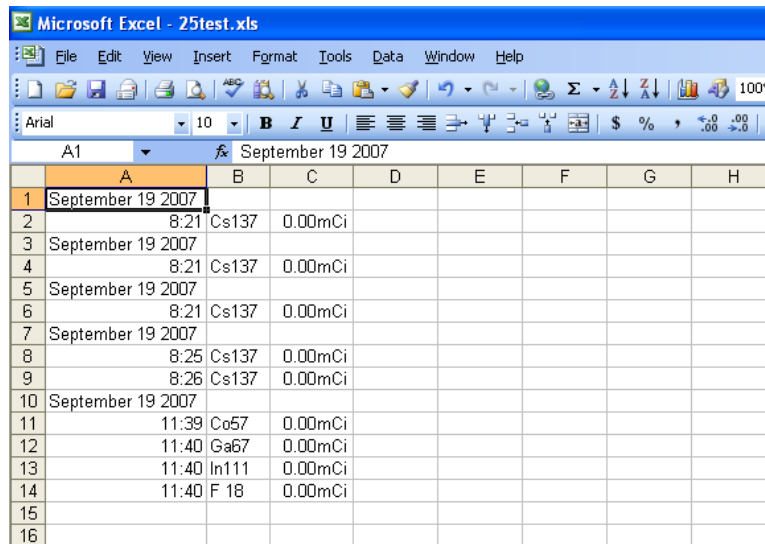

Figure 35
- Click the **Finish** button. The spreadsheet will appear as shown in Figure 35.